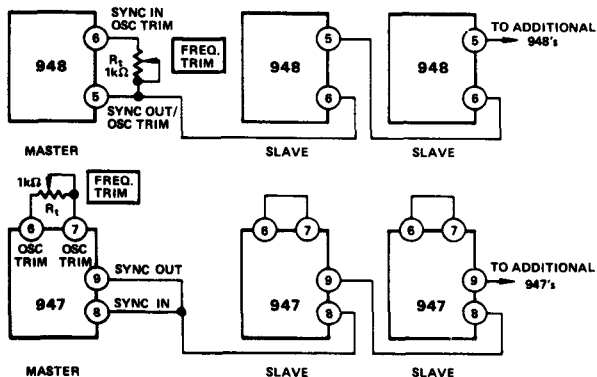

Figure 5. Model 948 and 947 Connections for Systems with Greater than 8 Channels
- For applications requiring more than eight 288's, additional 947's or 948's may be used in a master/slave mode. Refer to Figure 5.
**Driver Synchronization:** A single model 947 or model 948 driver can be applied in systems having from 1 to 8 data channels, as shown in Figures 3 and 10. Additional model 947's and 948's may be driven in a slave-mode, as shown in Figure 5, to expand the total system channels from 8 to virtually any number of channels.
**Optional Oscillator Adjustment:** Models 947 and 948 provide the user with a method to trim the internal 100kHz oscillator over a range of  $\pm 5\%$  (95kHz to 105kHz). This feature may be used when an external noise is "beating" with the 100kHz oscillator and a small trim adjustment of the oscillator frequency will eliminate the resulting noise frequency. As shown in Figure 5, a trim adjust,  $R_f$ , is installed between the OSC TRIM terminals. No specification changes occur when this trim adjustment is employed.